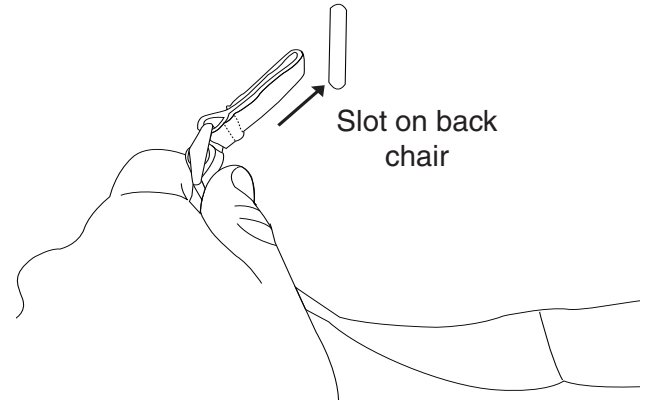

Fig. 3
3. To properly install the child safety harness, take the strap lock and insert strap and entire strap buckle into the slot on back of chair (Fig 3).